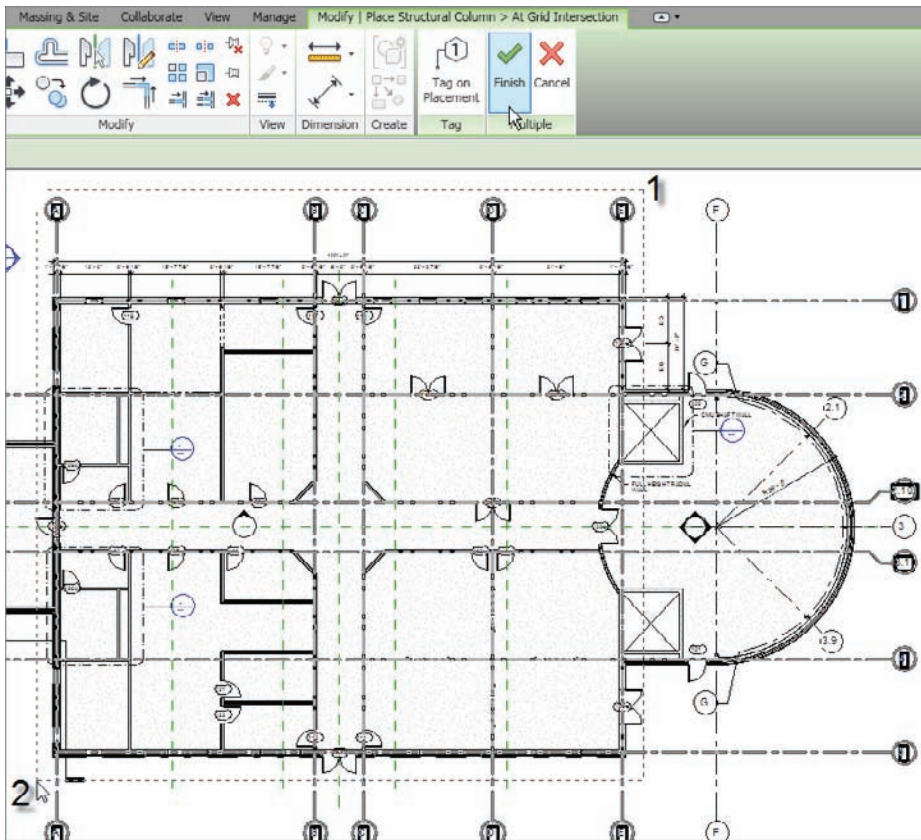

FIGURE 8.30 Picking a window where the columns will be placed
3. Pick a window around the rectangular portion of the east wing (from right to left), as shown in Figure 8.30.
4. Notice that the Modify | Place Structural Column > At Grid Intersection tab now changes to allow you to either finish or cancel. After you have the window placed, click the Finish button on the Multiple panel, as shown at the top of Figure 8.30.